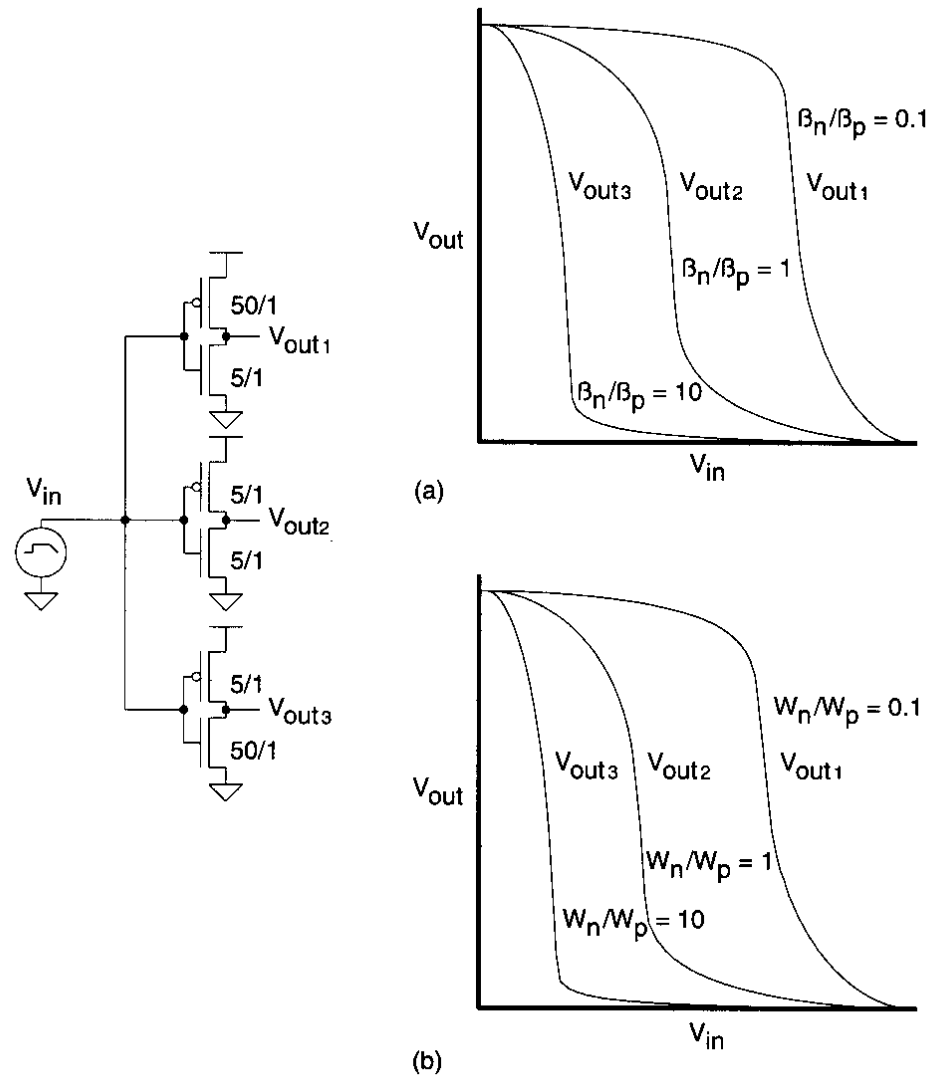

FIGURE 2.15 Influence of $\frac{\beta_n}{\beta_p}$ on inverter DC transfer characteristic
- The transfer curves of an inverter plotted as a function of b_n/b_p are shown in Figure 2.15(a).
- As the ration b_n/b_p is decreased, as shown in Figure 2.15(a) the transition region shifts from left to right.
- The inverter transfer curve is also plotted for W_n/W_p as shown in Figure 2.15(b).